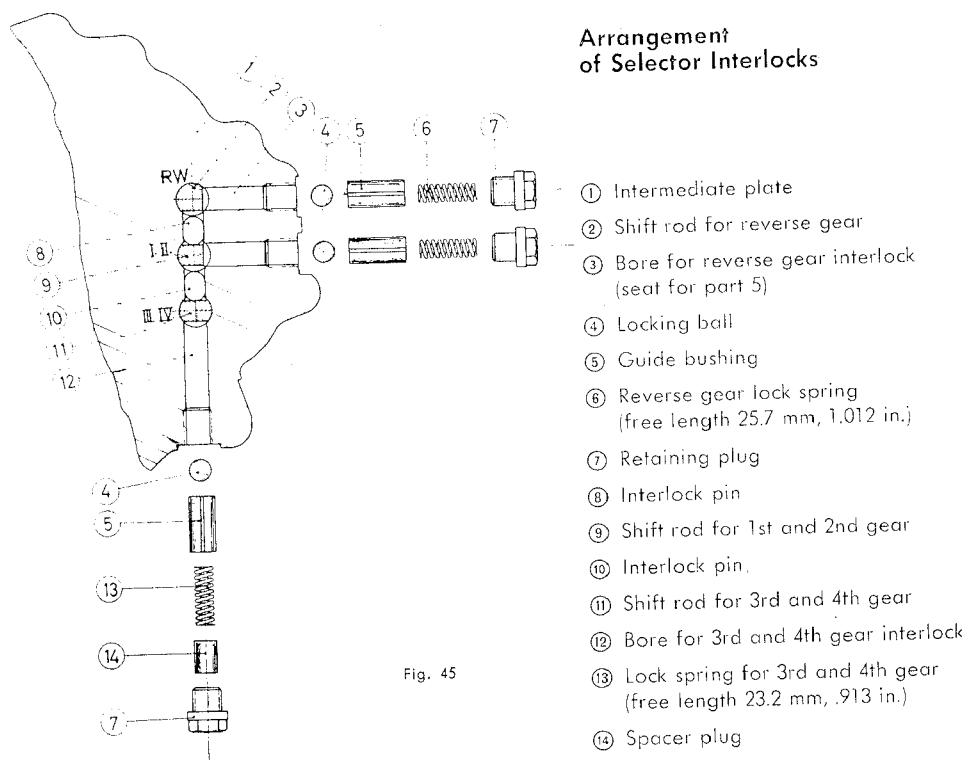

Fig. 45
- ③ Selector rod for reverse gear.
- ④ Reverse gear III (mounted on pinion shaft).
- ⑤ Selector rod, 1st and 2nd gear.
- ⑥ Plug for selector rod lock, reverse gear.
- ⑦ Plug for selector rod lock, 1st and 2nd gear.
- ⑧ Selector rod 3rd and 4th gear.
- ⑨ Tapped holes to extract gear.
- ⑩ Plug for selector rod lock, 3rd and 4th gear.
14. Remove three plugs from selector rod locks (Fig. 45, ⑥, ⑦, and ⑩).
One ball and spring fits into each of the shift lock bores of the first and second gears and the reverse gear. A ball and spring followed by a spacer tube fits into the shift lock bore of the 3rd and 4th gears (Fig. 45).
As seen in Fig. 45 interlock pins are located in the connecting passage between the shift rods for reverse and 1st and 2nd gear and between the shift rods for 1st and 2nd gear and 3rd and 4th gear.
18. Install a locking ball and spring in each of the three gear lock bores using the correct spring for reverse gear (Fig. 45).